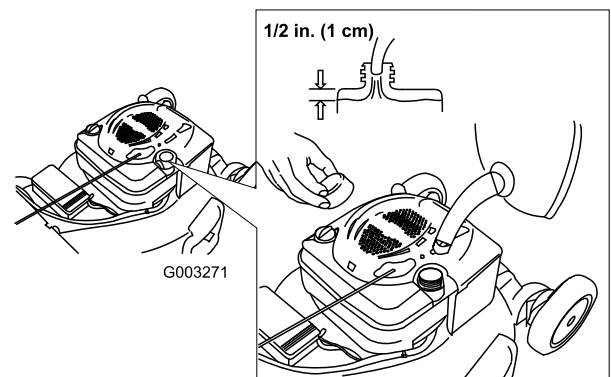

Figure 9
- Clean around the fuel-tank cap, and remove the cap from the tank (Figure 9).